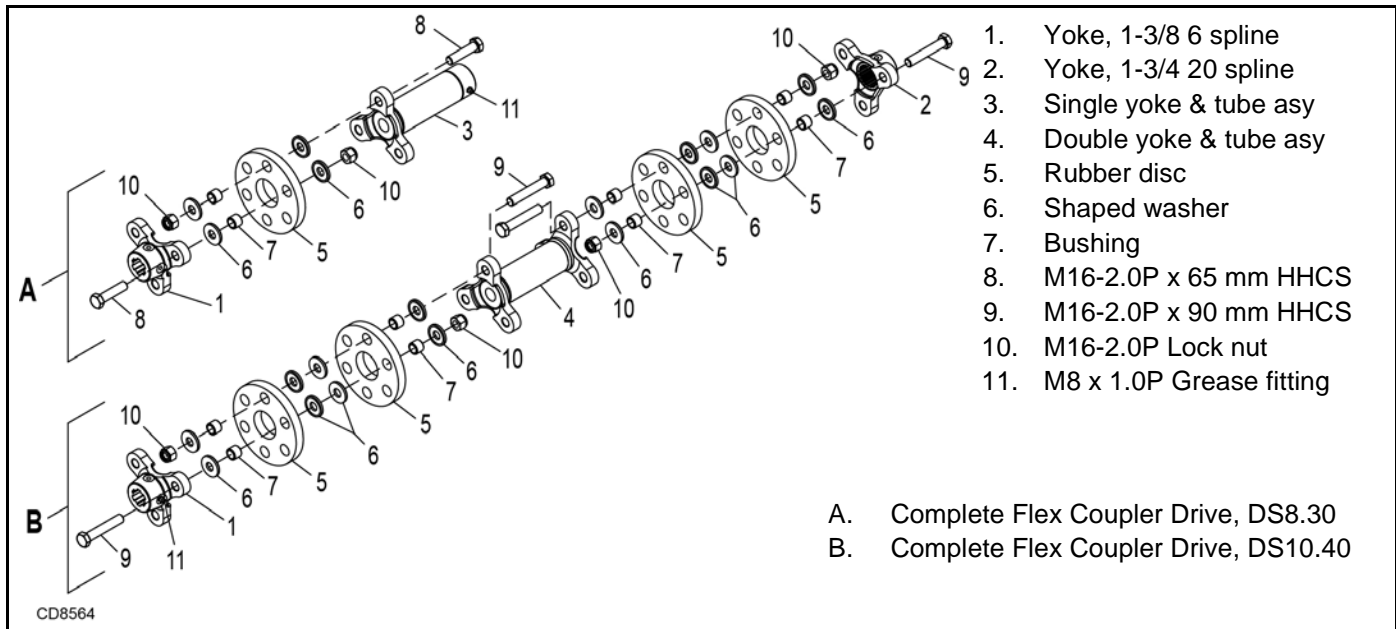

Figure 15. Flexible Coupler
To replace the disks, remove hardware items (6, 7, 8 or 9 and 10). Remove sleeves (7) from old disk and install in new disk. Reassemble and torque bolts to 85 lbs-ft. See Figure 15. Take special care not to rotate gearbox shaft and throw blades out of time. If rubber disks have failed and blades are hitting, you will need to re-time the blades per instructions on page 37.